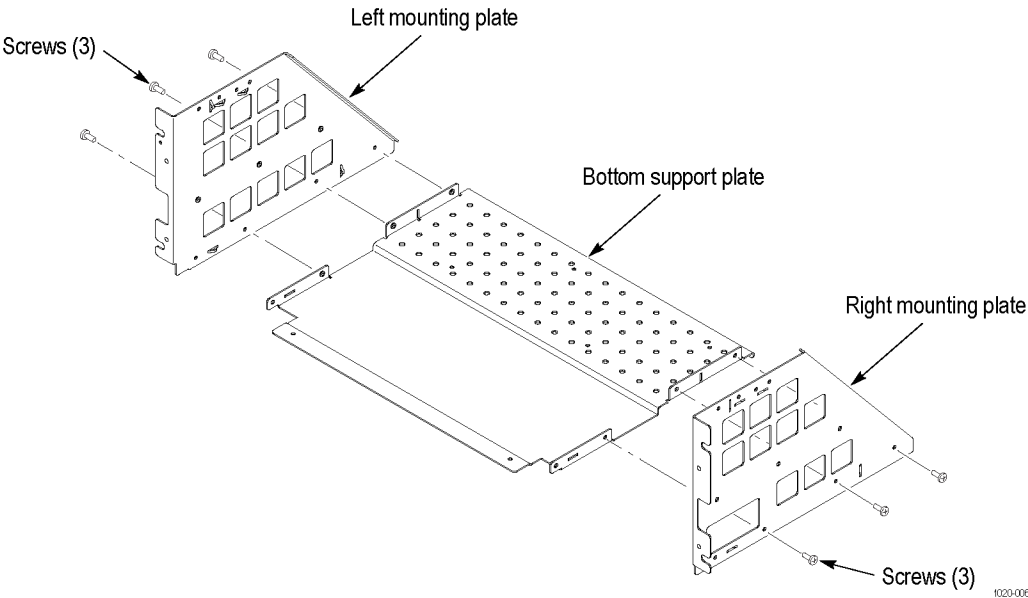

Figure 6: Assembling the left and right mounting plates
- 1. Assemble the left and right mounting plates to the bottom support plate using six 6-32 x 0.250 inch pan head T-15 TORX-drive screws tightened to 8 in-lb. (See Figure 6.)